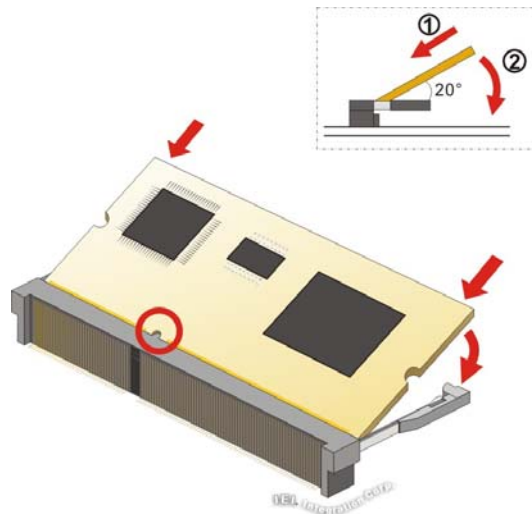

Figure 4-12: iRIS Module Installation
To install the iRIS-2400 module, please follow the steps below and refer to **Figure 4-12**.
- Step 3:** Insert the iRIS-2400 module. Push the module in at a 20° angle (Figure 4-12).
- Step 4:** Seat the iRIS-2400 module. Gently push downwards and the arms clip into place (Figure 4-12).